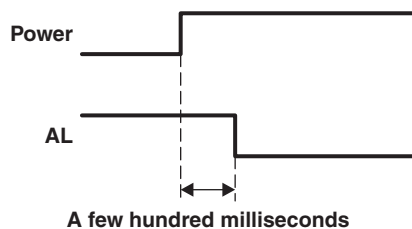

Figure 3. Power-On to AL Delay
After power is supplied to the device, the the lock detection pin (AL) may remain high for a few hundred milliseconds (see Figure 3).